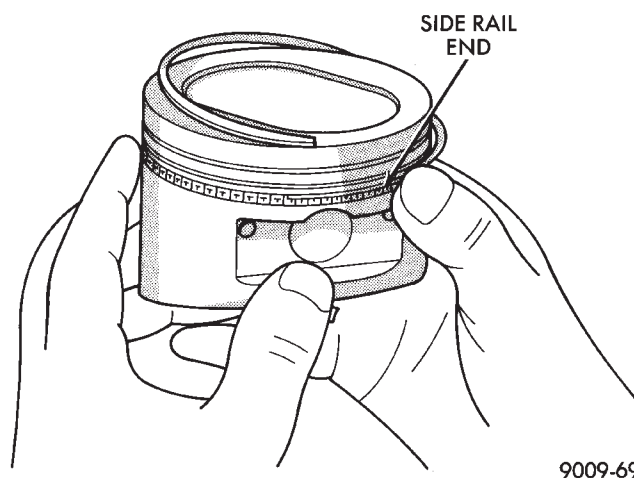

Fig. 11 Installing Side Rail
(2) Install the side rail by placing one end between the piston ring groove and the expander. Hold end firmly and press down the portion to be installed until side rail is in position. **Do not use a piston ring expander.** (Fig. 11).